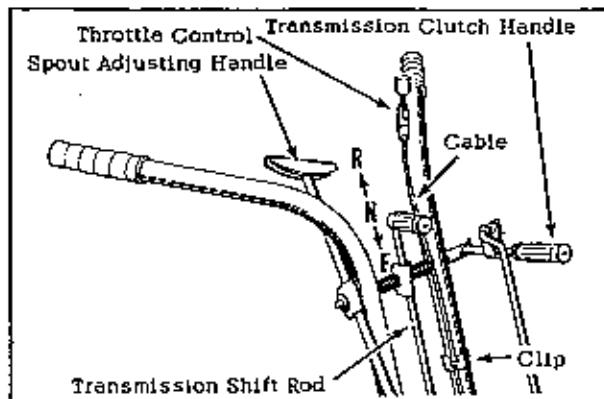

Fig. 2
- Attach the spout adjusting handle, shift rod, and clutch rod to the upper end of the handles as shown in Figure 2.
- Fasten throttle control to left handle with 2 self tapping screws as shown in Fig. 2. Attach cable to left handle with cable clips.
The direction of travel of the snow plow is controlled by the position of the transmission shift lever. Refer to Figure 2. When shifting the transmission, always put the transmission clutch in disengaged position. To disengage the clutch, push the clutch lever forward. Refer to Figure 2. With the clutch disengaged, push forward on the transmission shift lever and the transmission will shift into forward position and snow plow will travel forward when the clutch is engaged. To reverse the snow plow, disengage the clutch and pull back on shift lever and transmission will shift into the reverse position. Neutral position of the shift lever is half way between forward and reverse and the lever will be held in this position by a detent lever on left side of the snow plow frame.